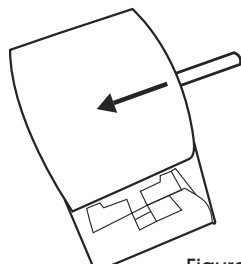

Figure 6
6. Replace ring tube into core. (See Figure 6)